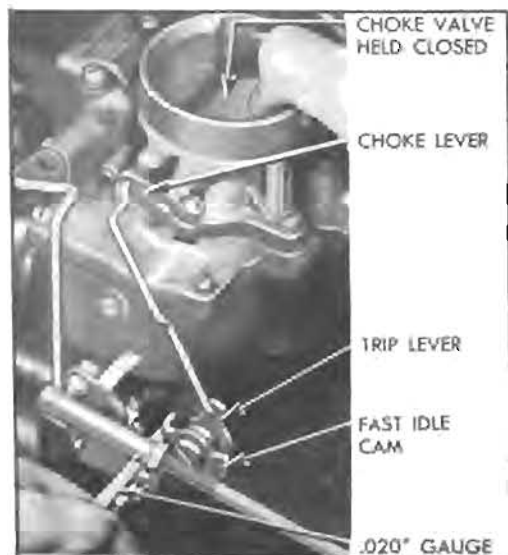

Figure 3-28—Checking Carter Fast Idle Cam Clearance
2. Hold choke valve in closed position and see that the cam trip lever is in contact with the fast idle cam, then check the clearance between the arm of fast idle cam and the boss on body flange, using a .020" feeler gauge (T109-29). See figure 3-28.